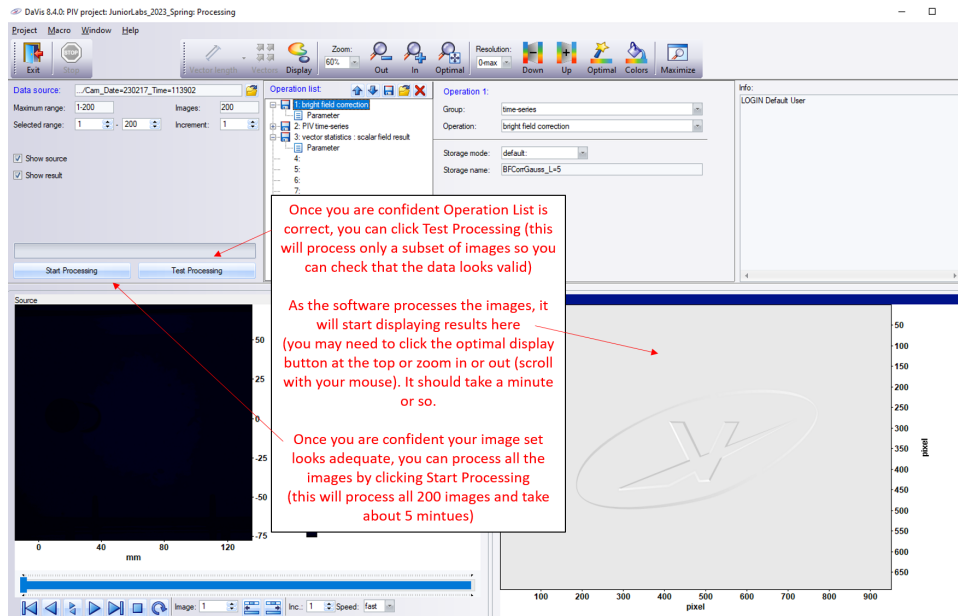

Figure 14: Test and Full Processing.
- **For your first run**, click “Test Processing” (Figure 14). This will process a small subset of images and allow you to gauge the quality of the data.
- For processing your full image set, click “Start Processing” (Figure 14).